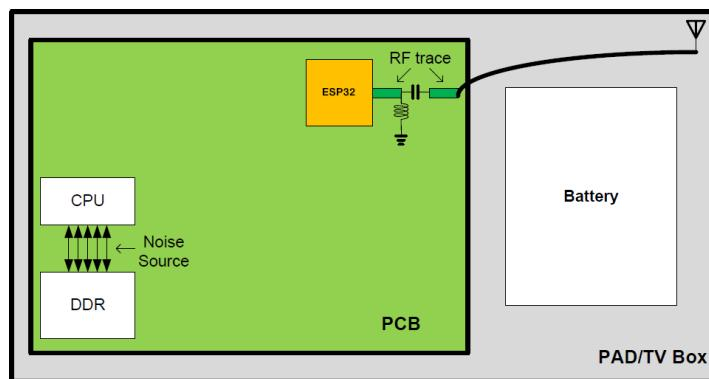

Figure 20: PAD/TV Box Layout
- As can be seen in Figure 20, ESP32 should be placed near the edge of the PCB and away from the CPU and DDR, the main high-frequency noise sources. The distance between the chip and the noise sources decreases the interference and reduces the coupled noise.